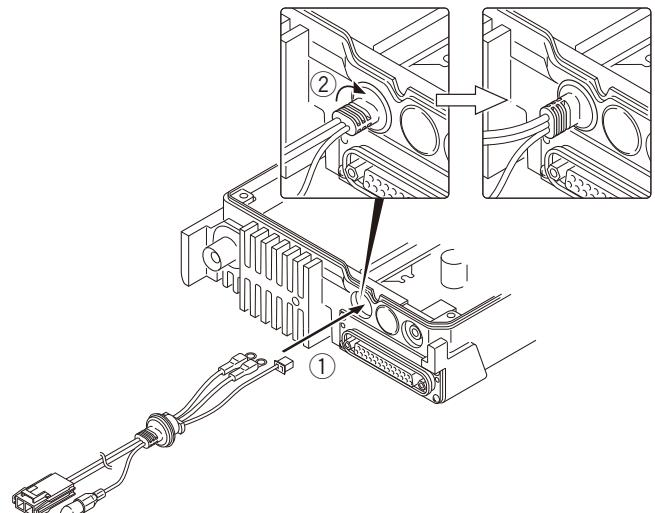
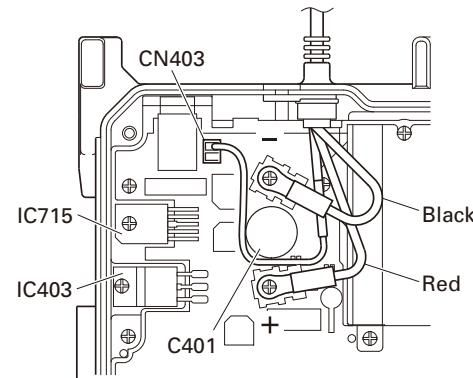

Fig. 4-1
Fig. 4-2
- Pass the power supply cable through the chassis hole (①) as shown in Figure 4-1 and insert the bush into the chassis hole.
- Rotate the bush of the power supply cable 90 degrees clockwise as viewed from the rear of the chassis. (②)
- Align the + (positive) terminal of the power supply cable (red) as shown in Figure 4-2 and fix it to the terminal strip with a screw.
- Align the - (negative) terminal of the power supply cable (black) as shown in Figure 4-2 and fix it to the terminal strip with a screw.
- Fit the convex tab of the top packing into the hollow of the chassis. (①)
- Fit the chassis into the groove of the top packing. (②) Verify that the top packing is in close contact with the chassis.